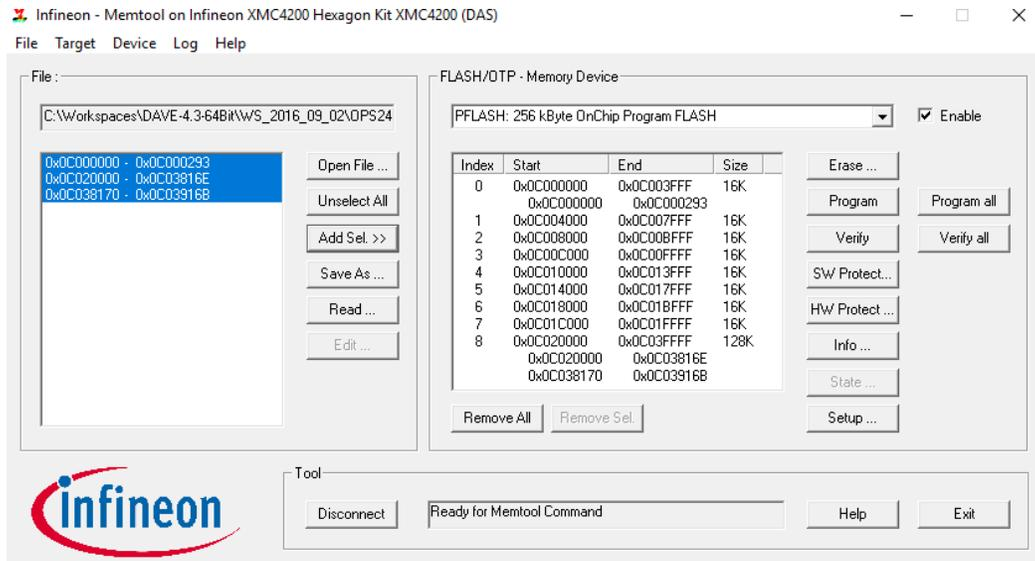

Figure 8. Files Ready to Program
**Step 6.** Pressing Add Set>> will add the files to the window on the right side. The Program all button on the far right will now be available to press (Figure 8).